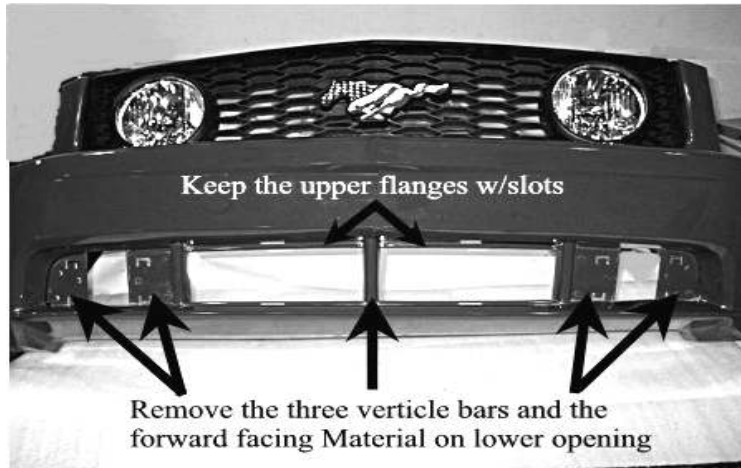

Figure 9
- The cut will be made along the marked lines below the fascia opening. The top and side cuts will be made on the radius of the grille opening. (Figure 9)